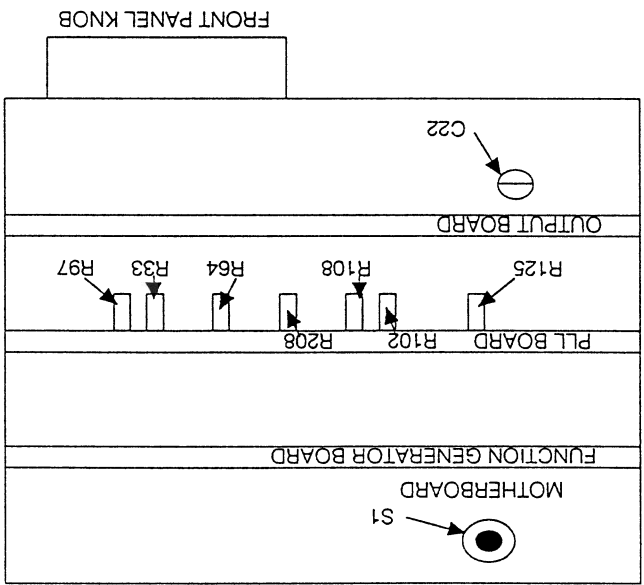

Figure 5-1. Calibration Location
- Slide the top cover back. Press and hold down the internal calibration switch S1 (figure 5-1) while pressing the front panel CALIBRATE key.
- If incorrect, adjust C22 (figure 5-1) until the reading is within specified limits.
3. On the Model 288, slowly adjust the Front Panel Knob (figure 5-1) until the THD as displayed on the distortion analyzer is minimum. Verify that reading is ≤ -50 dB at 10 kHz.
- Adjust R33 (figure 5-1) until waveform peaks are clearly visible in the residue.
- If incorrect, adjust R208 (figure 5-1) until reading is within specified limits.
If carrier null is incorrect, adjust R108 (figure 5-1) for minimum indication..